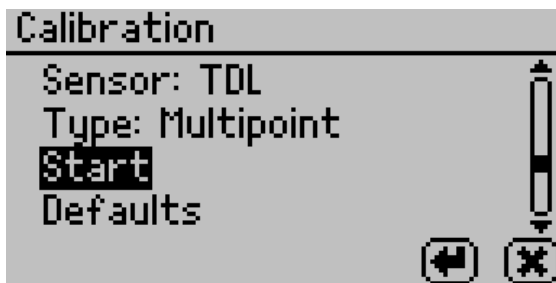

Figure 52 TDL sensor calibration screen
3. Select **Calibration** from the Configuration tab (Figure 52).